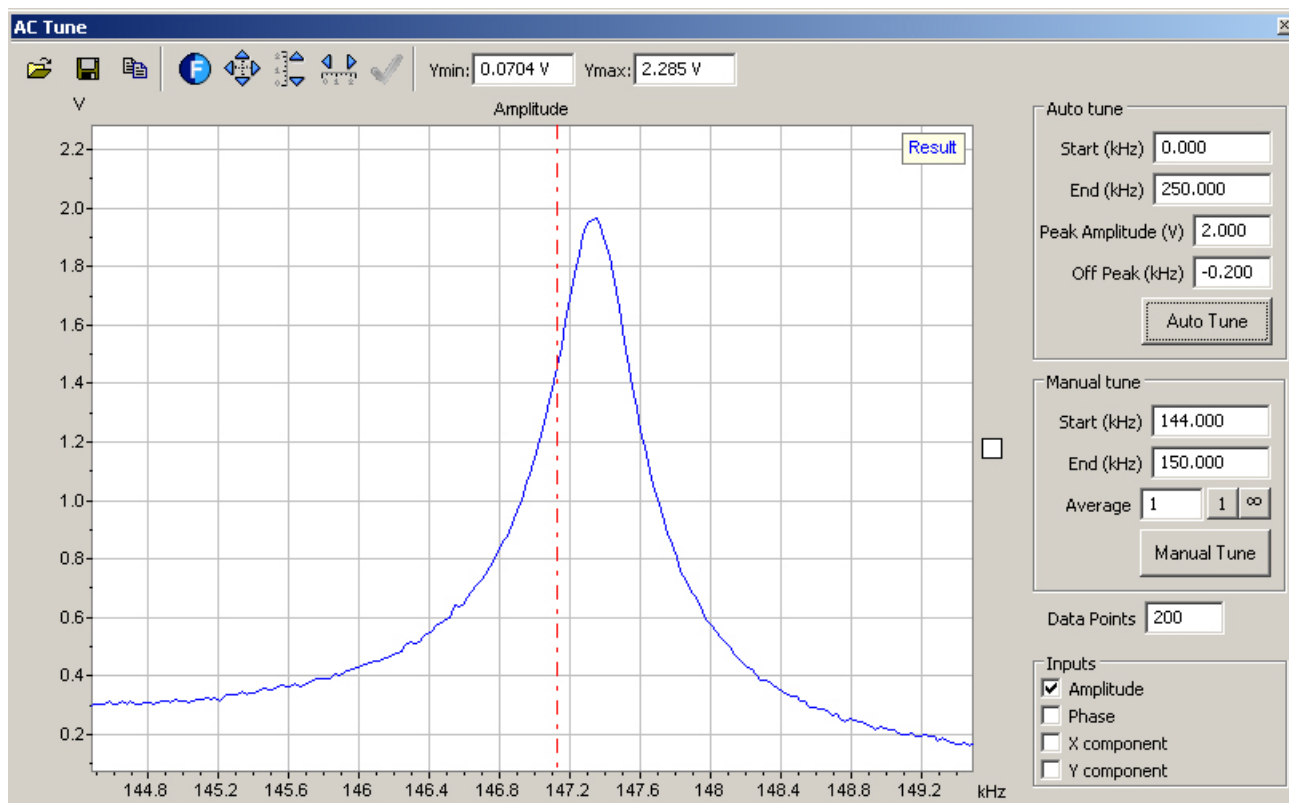

Figure 82 AC Tune window with resonance peak at ~147 kHz
- 8 Choose **Controls > AC Mode Tune** to open the AC Tune window (Figure 82).
- 12 Click the **Auto Tune** button. The system will sweep several times through the range of frequencies, locating the peak oscillation amplitude within the range (Figure 82). The AC signal oscillation will be set to this value, taking into account the specified Offset.